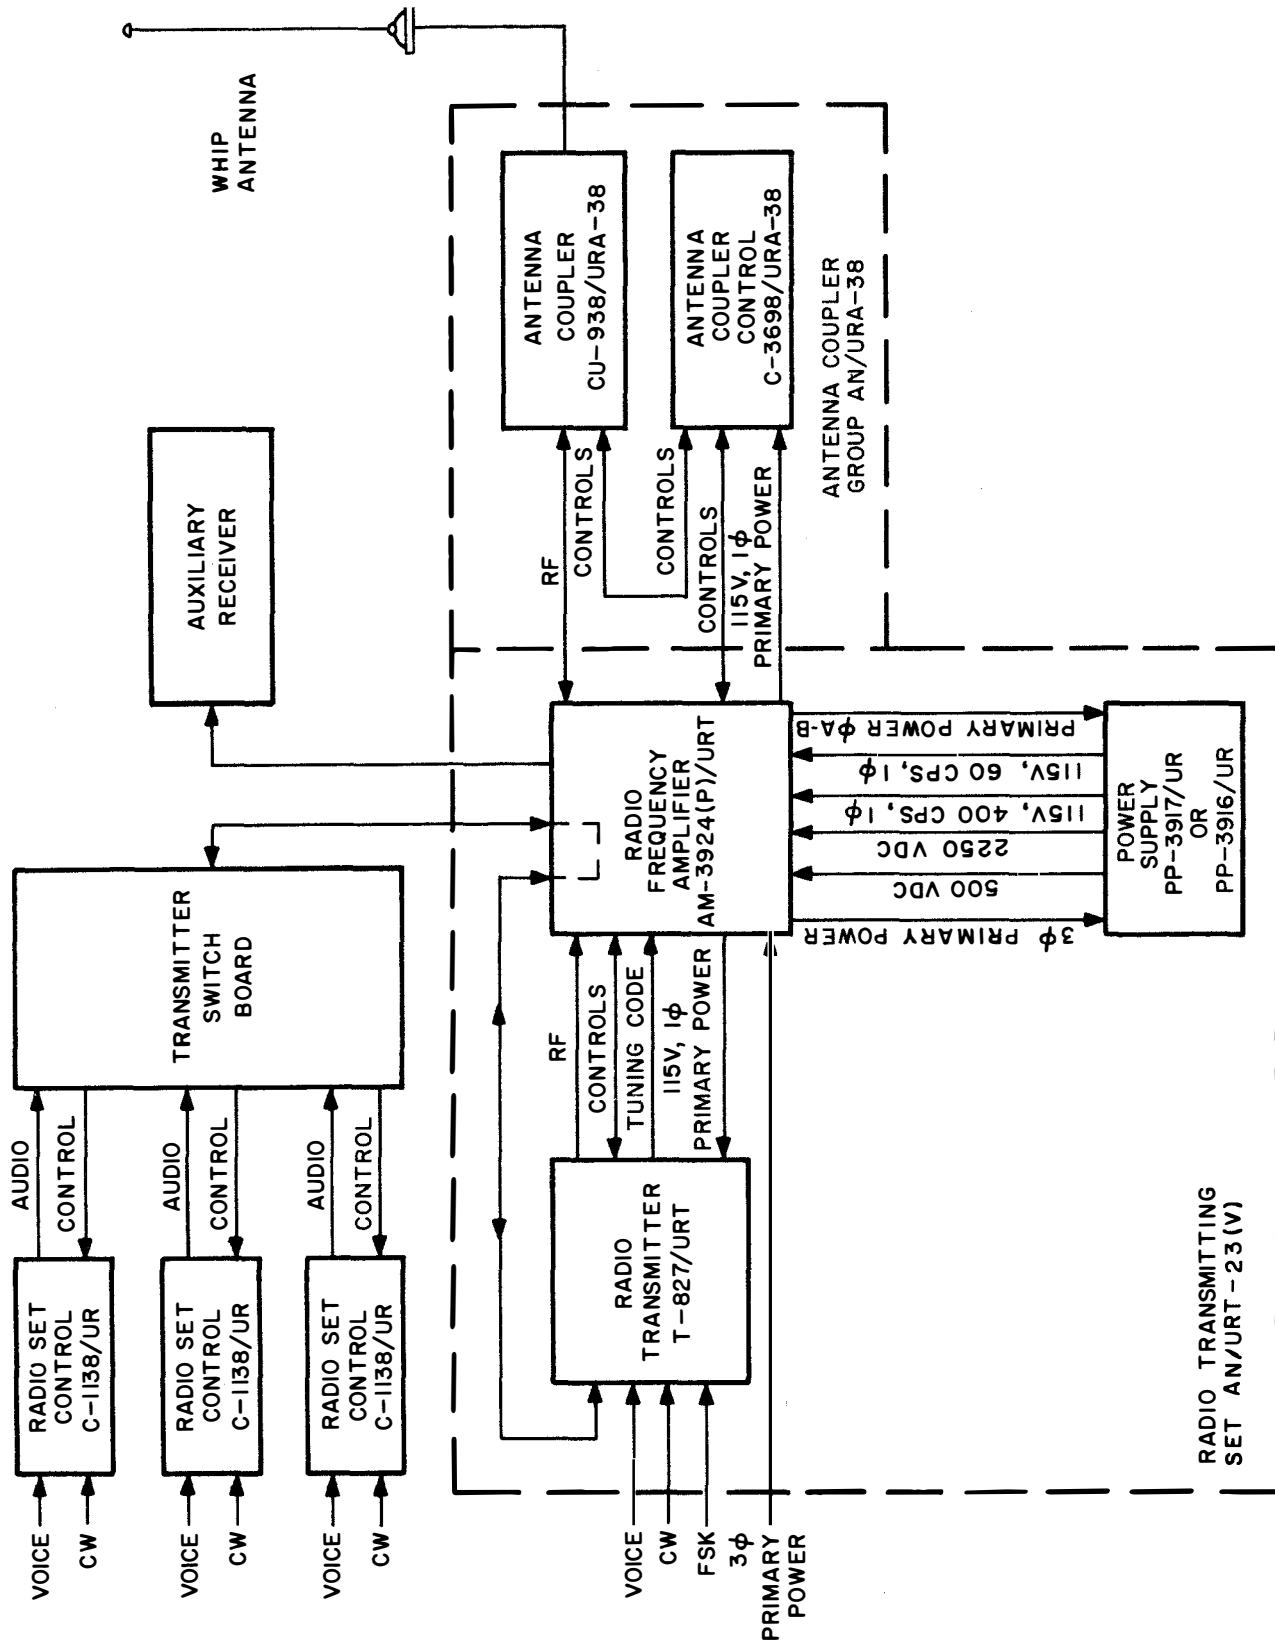

Figure 4-1. Typical Radio Set Block Diagram
4-18. Figure 4-1 illustrates the functional relationship of the AN/URT-23(V) in a typical radio set configuration. The T-827/URT allows the operator to select a voice (LSB, USB, ISB, or Compatible AM), CW, or FSK mode of operation on any one of 56,000 or 280,000 channels (depending on model of T-827/URT used) in the 2.0 to 29.9995 MC frequency range. When an operating channel is selected, the T-827/URT supplies a five wire code to the AM-3924(P)/URT to automatically tune it to the correct operating band. Once the AM-3924(P)/URT is tuned, the antenna coupler must be tuned to match the impedance of the antenna at the selected operating frequency to the 50 ohm transmission line of the AM-3924(P)/URT. When Antenna Coupler Group AN/URA-38 is the antenna coupler system used, the necessary control signals are passed between the AM-3924(P)/URT, T-827/URT, and AN/URA-38 to automatically tune the AN/URA-38 for the selected operating frequency.